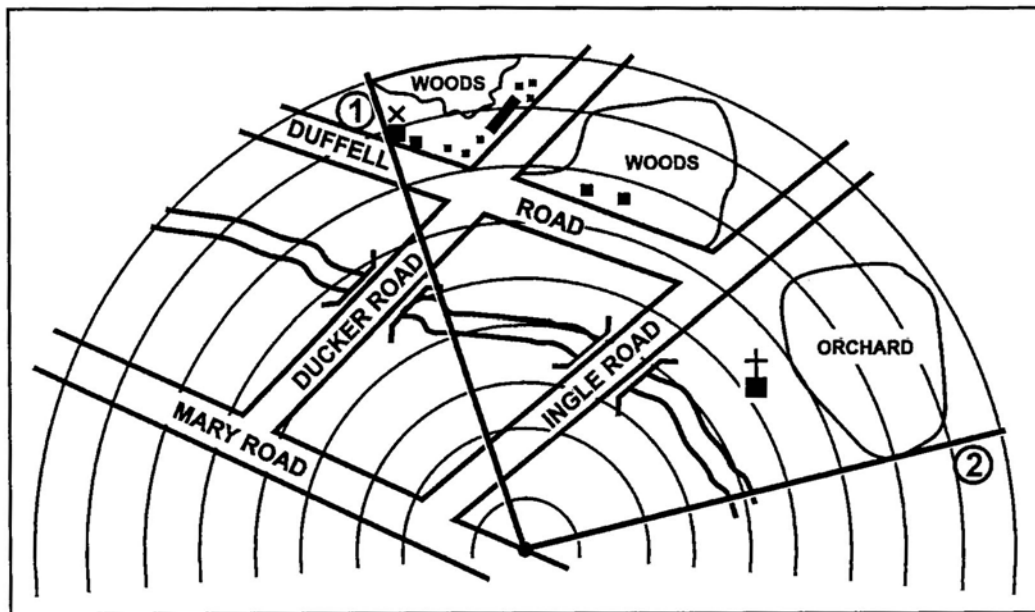

Figure 3. Left and right limits.
- b. Left and right limits. Draw lines from the firing position to reflect left and right limits (Figure 3). Number the left limit "1" and the right limit "2."